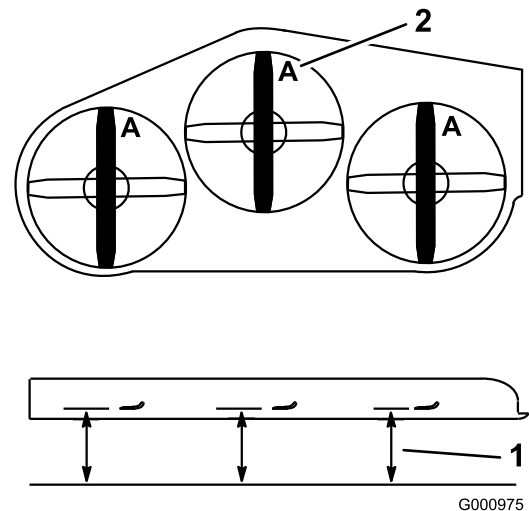

Figure 110
2. Measure from a level surface to the cutting edge, position A, of the blades (Figure 110).